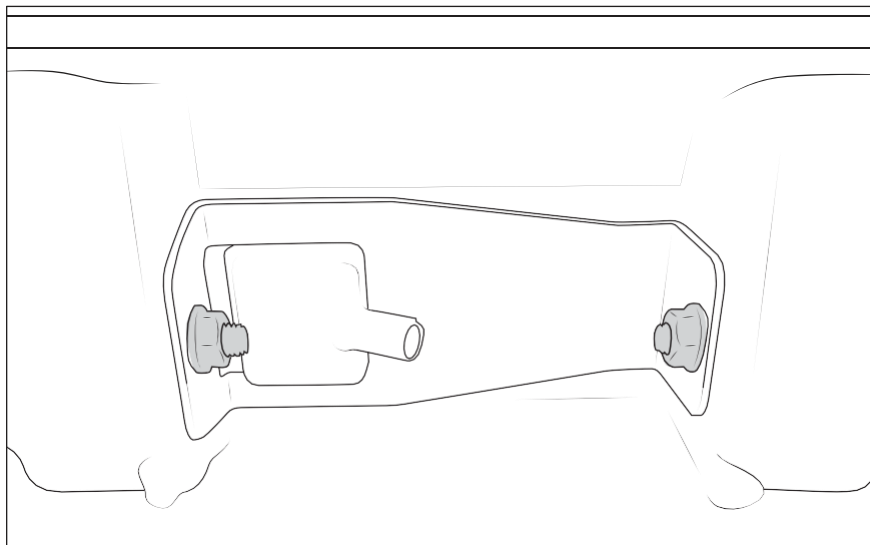

Figure 12.1
3. MY2019-2024 Holding the camera and spacer onto the bracket, secure the bracket and camera into the front bumper using supplied M6 bolts, washers, and nuts (fig. 12.1).